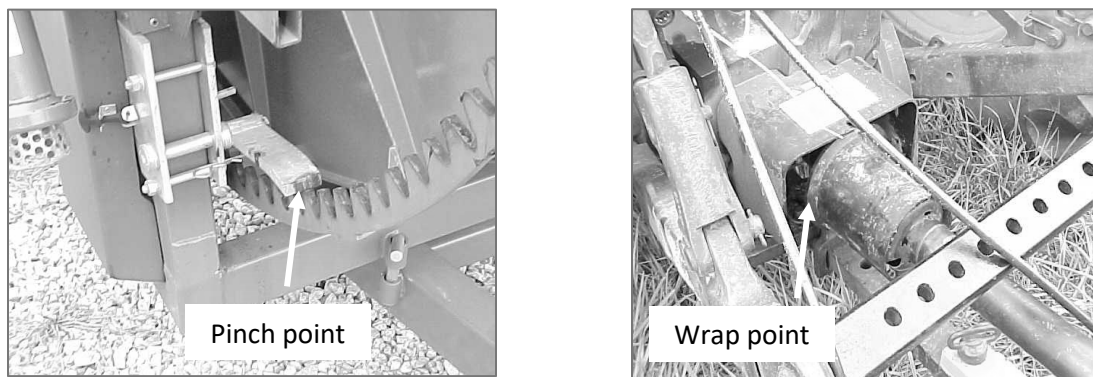

Figure 11-2. Unguarded pinch and wrap points.
- **Pinch Point:** two parts move together and there is a possibility that a body part could be caught between them. Body parts that get caught can be cut or crushed; loose clothing that gets caught can pull body parts into the mechanism. Stay away from moving objects. Keep shields in place (Figure 11-2).
- **Wrap Point:** rotating components, such as a Power Take Off (PTO) shaft. Clothing caught by the spinning shaft can pull a person into the mechanism. Keep shields in place and shut off power before approaching the mechanism (Figure 11-2).